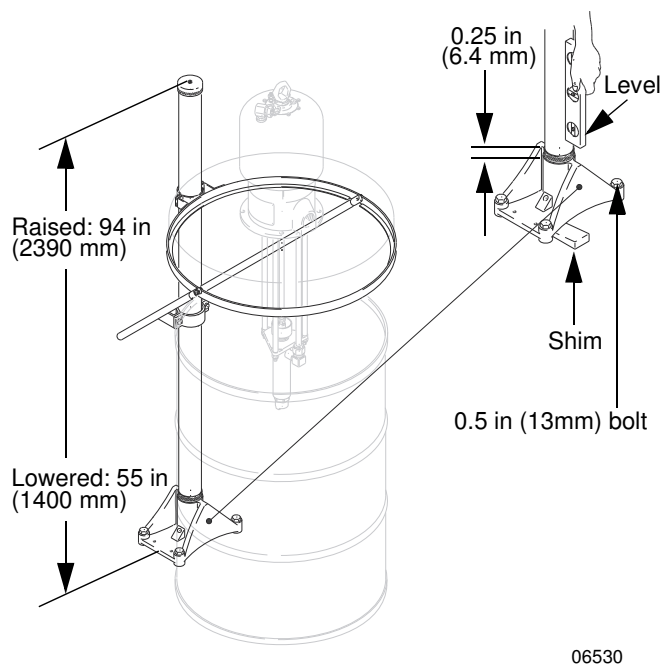

FIG. 2
Locate the elevator where there is at least 9 ft (2.75 m) overhead clearance. Mark and drill holes for 0.5 in. (13 mm) mounting bolts. See FIG. 2 and the dimensional drawing on page 15. Level the base (17), using shims if necessary. Secure the base to the floor using four 1/2 in. (13 mm) mounting bolts which are long enough to prevent the elevator from tipping.